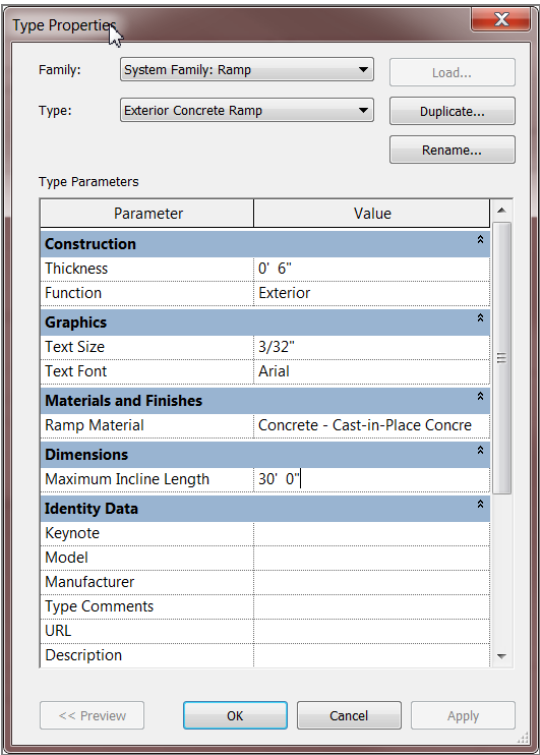

FIGURE 10.81: Modifying the Type Properties
- 8. For the ramp material, click the [...] button, and specify Concrete - Cast-In-Place Concrete, as shown in Figure 10.81.